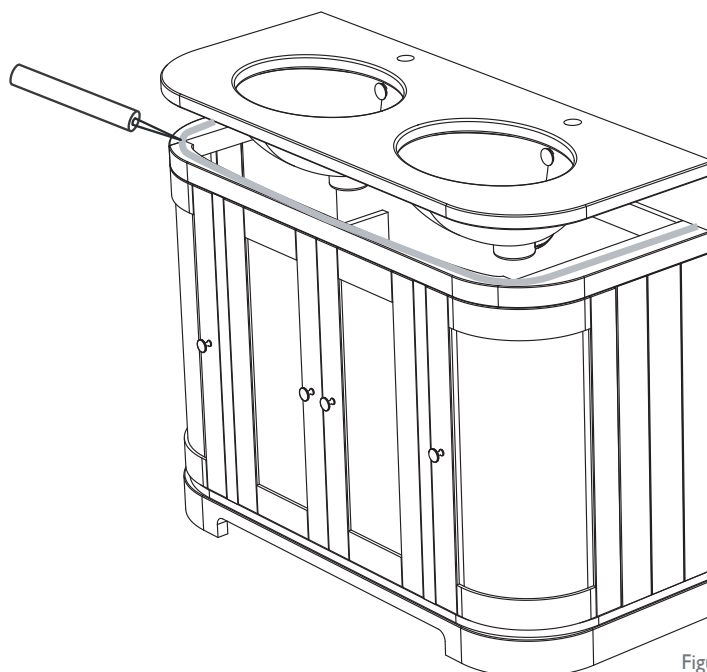

Figure 2
- Apply a layer of silicone sealant to the worktop on all 4 sides to be fixed to the panels, back rail and front section. See Figure 2.